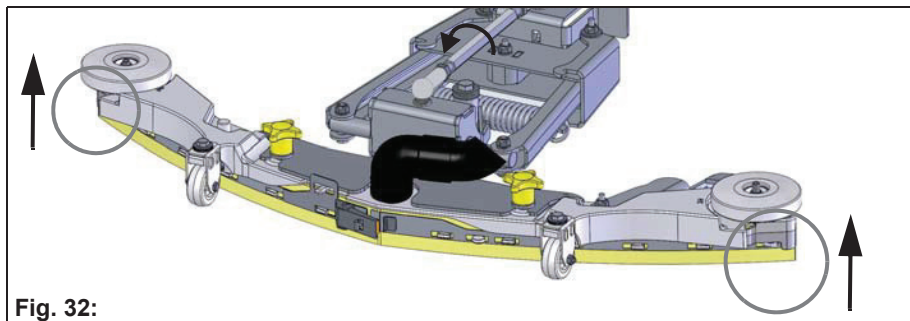

Fig. 32:
- Turn the threaded bar counter-clockwise: The distance of the sealing strip to the ground increases at the ends **Fig. 32**.